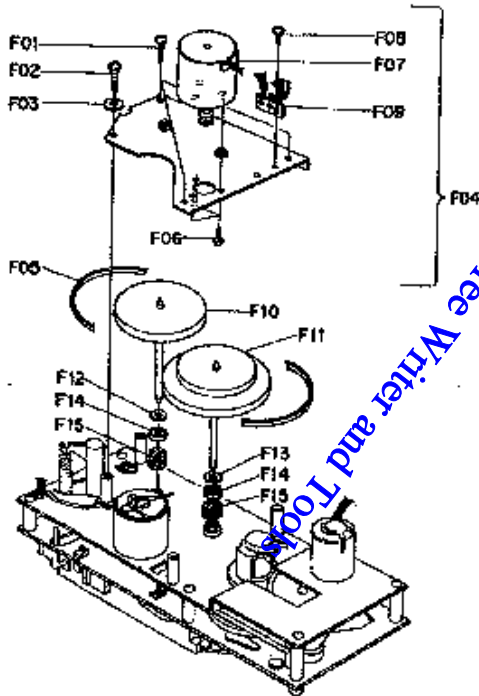

Fig. 2.7
- Refer to Fig. 2.7.
- (1) Refer to Fig. 2.7. Remove Flywheel Holder Assy referring to Item 2.14.
- (2) Remove F01, F02 and F03, then disassemble F04 (Sub Mechanism Chassis Assy).